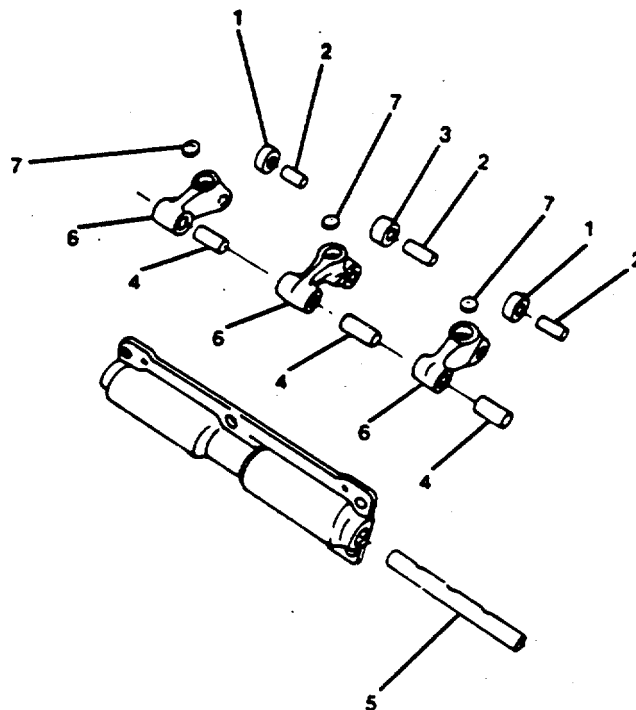

FIGURE 4-19. Cam Follower Housing Group (Push Rods Removed) with Callouts for Table 4-7 References.
- (1) Use a punch with a sharp point to make a hole in the center of the plugs (2). Hit one edge of the plug to loosen it.
- (2) Use pliers to remove the plug (2).
- c. Push against the shafts (5, FIGURE 4-19) in the housing to move the plug out of the hole in the opposite end of the housing.
- e. Remove the cam follower levers (6, FIGURE 4-19) from the housing.
- b. Inspecting. Table 4-7 lists specifications for the cam follower assembly. See FIGURE 4-19 for reference numbers in Table 4-7.
- a. Hold a 0.006 inch (0.15 mm) feeler gauge between the cam follower (6, FIGURE 4-19) lever and roller (1).
- (1) Install the roller pin (2) through the lever (6) and roller (1).
- (2) Install the other rollers and pins into the levers.
- b. Assemble the levers (6) and shafts (5) in the housing. Make sure the lever for the injector is in the center position in each assembly.